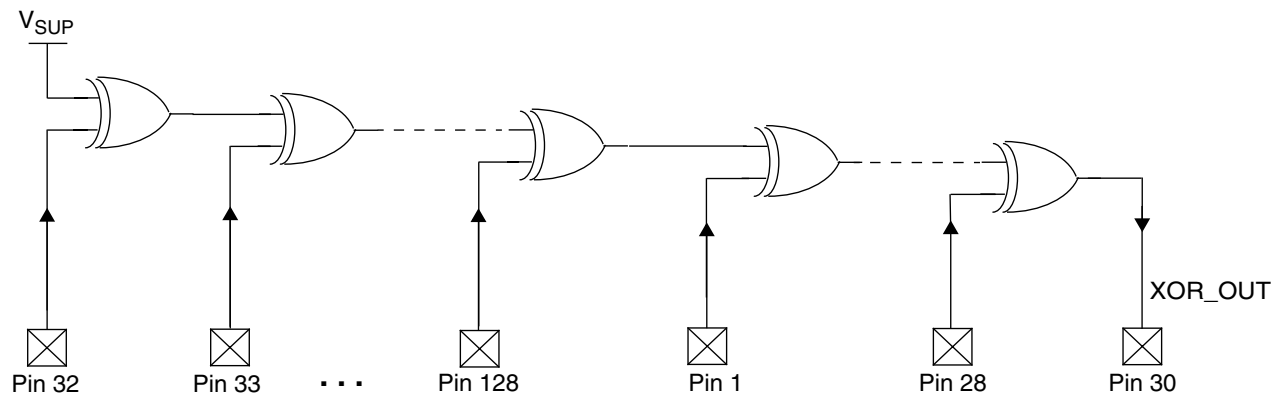

Figure 3. XOR Tree (Simplified Diagram)
In XOR Tree mode, all PC8374L device pins are configured as inputs, except the last pin in the tree, which is the XOR_OUT output. The buffer type of the input pins participating in the XOR tree, is IN_T (Input, TTL compatible), regardless of the buffer type of these pins in normal device operation mode (see Section 1.4 on page 21). The input pins are chained through XOR gates, as shown in Figure 3. The power supply pins (V_{DD3} , V_{SB3} , V_{SS} , V_{CORF} , V_{BAT}), the analog pins (V_{SB5} , REF5V, REF5V_STBY, $\overline{\text{RSMRST}}$) and the not connected pins (NC) are excluded from the XOR tree.